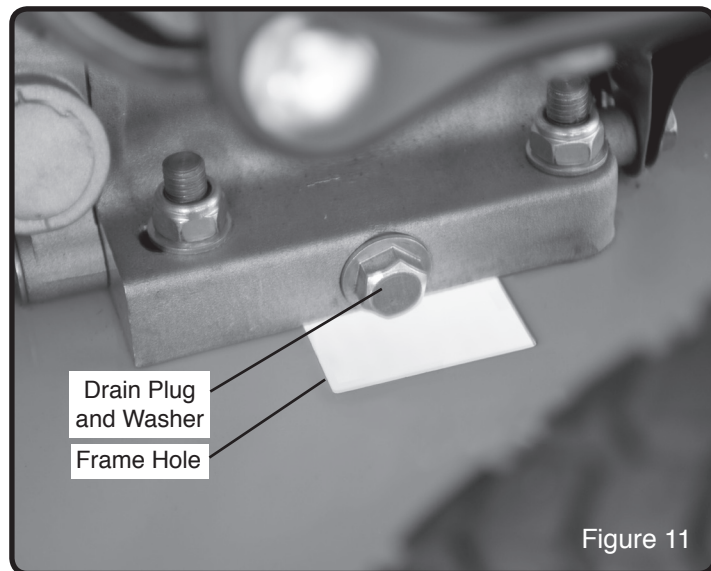

Figure 11
**NOTE:** Refer to Figure 11 when following the steps below: